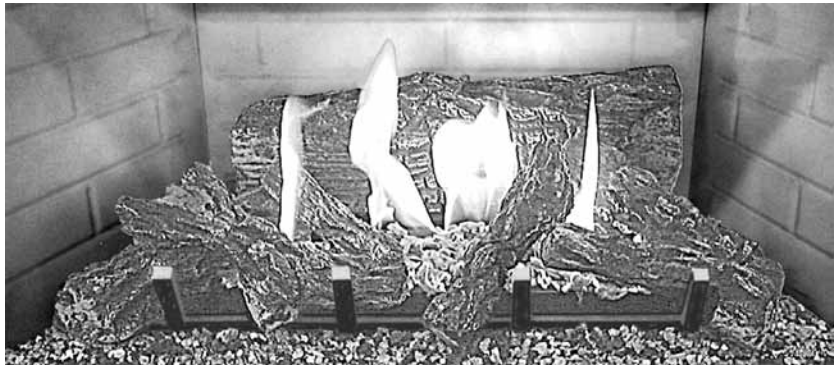
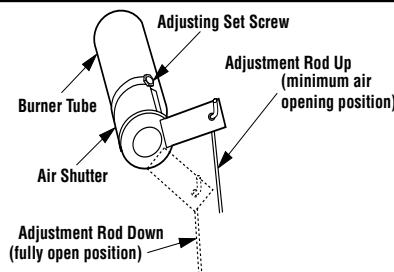

Figure 32 - MPB33 MODEL
Figure 35 - Air Shutter Opening Setting
1. Refer to **Figures 32, 33, and 34** for proper flame appearance. To adjust the flame, refer to **Figure 35** and move the rod up and down (the adjustment rod is located in the lower control area). Position the air shutter to the factory setting as shown in **Table 8**.